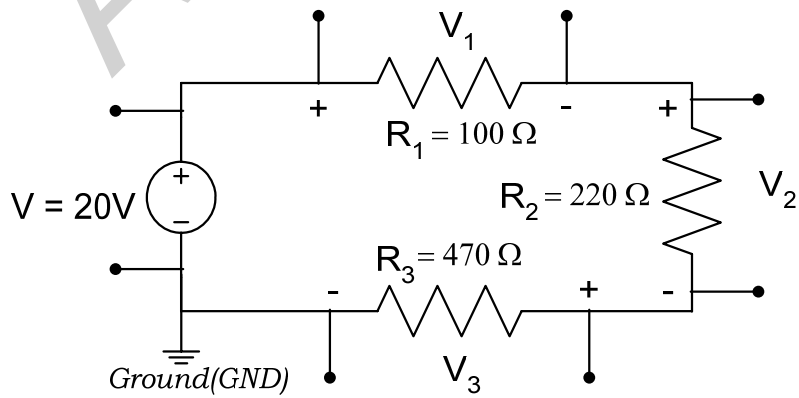

Figure 3.3
4. Now construct the circuit as shown in Fig 3.3. Turn on the DC power supply and set the DC supply to 20V by using Voltmeter.
2. From the data found in Table 3.1, mathematically prove that the current in the series network of figure 3.3 is equal for each resistance.